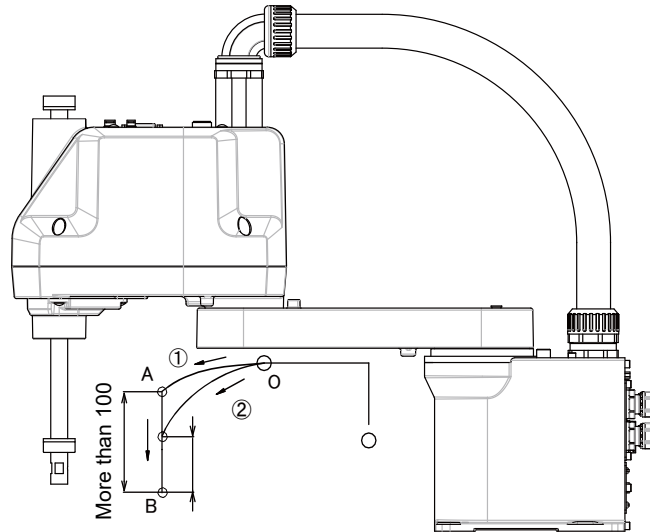

Fig.2-8: Recommended path when positioning at the bottom edge of the Z axis
- 3) When positioning the work near the bottom edge of the Z axis, if no effectiveness is achieved in step "2)" above, perform operation ① (robot path: O → A → C). In the case of operation ② (robot path: O → B → C), residual vibration may occur. (Refer to Fig. 2-8.)